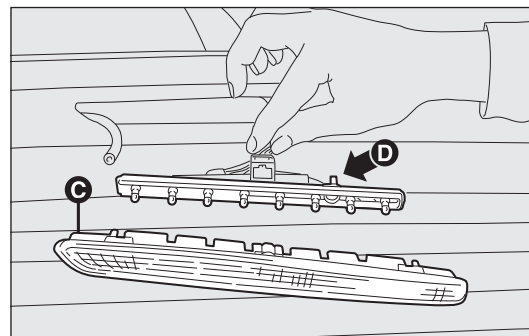

fig. 177
### THIRD BRAKE LIGHT fig. 177
- press in the catches and remove the lens unit C-fig. 177;
- press in the tabs D-fig. 177 and remove the bulb holder;